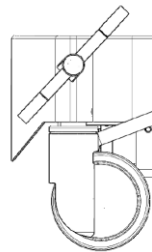

Figure 22
2. When you reach the desired position, make sure to block all the wheels (see Figure 22). This means all four wheels are blocked and cannot move.